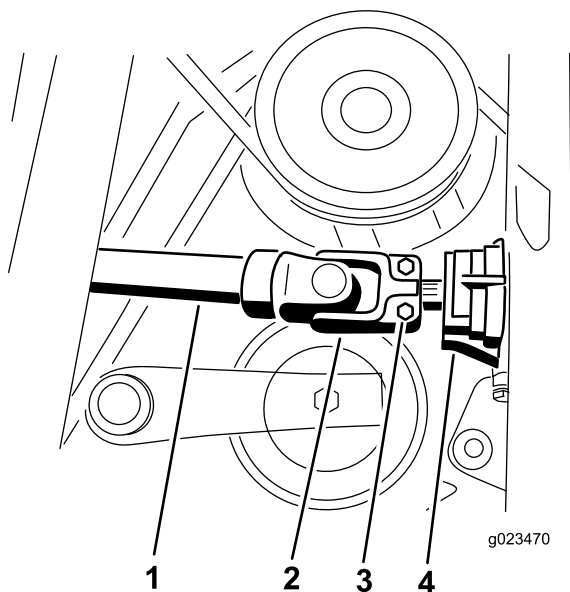

Figure 10
8. Slide the drive shaft onto the gearbox shaft (Figure 10).